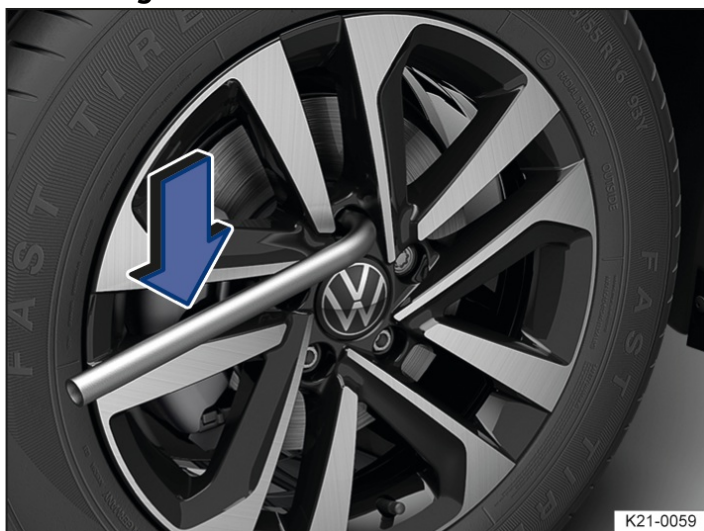

Fig. 1 Wheel change: Unscrew the wheel bolts with the wheel wrench.
4. Using the wheel wrench → *Fig. 1*, completely unscrew loosened wheel bolts and place them on a clean surface.